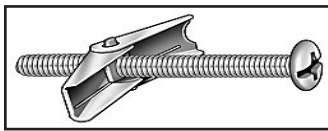

Figure 4.8 3/16 Toggle-Bolt Anchor
- For every mounting hole that does not align with a structural framing member, a wall board toggle-bolt anchor must be used. See Figure 4.8.